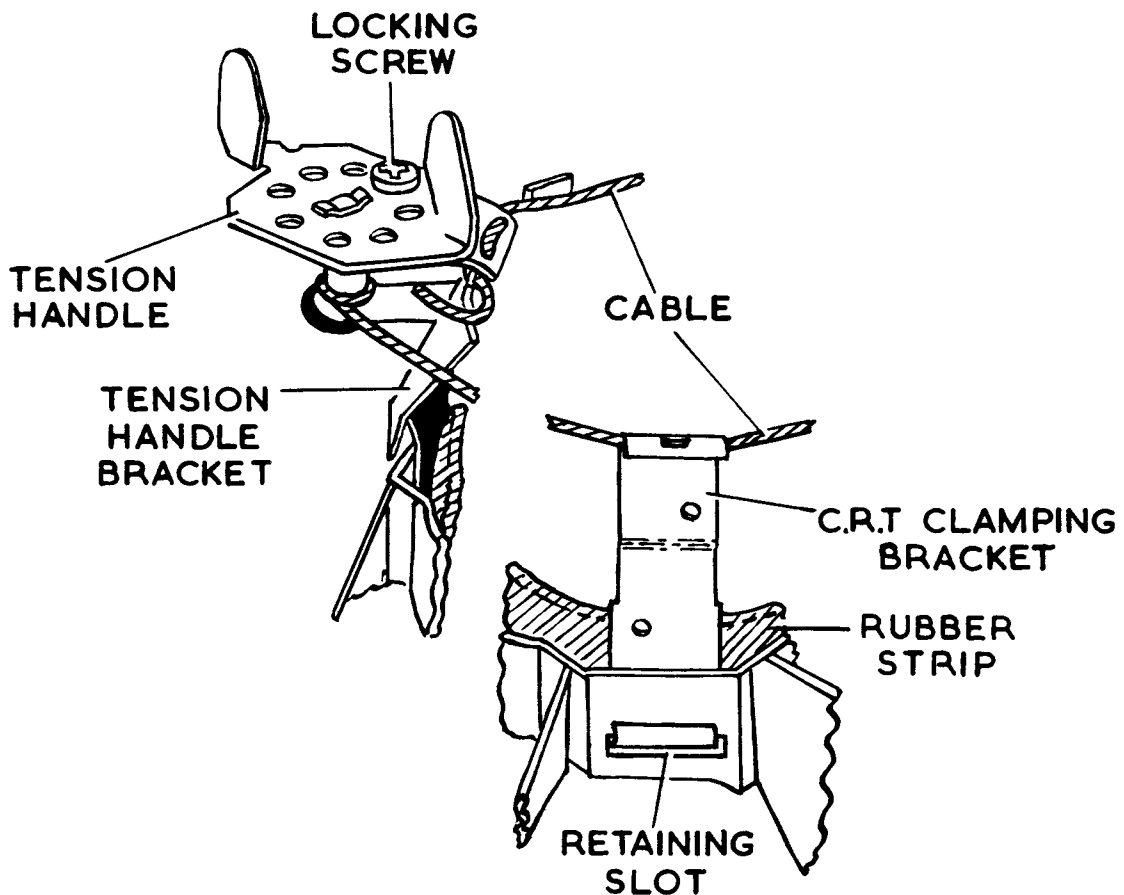

Fig. 7 C. R. T. Clamping Assembly
3. Remove the locking screw from the tension handle (Fig. 7)